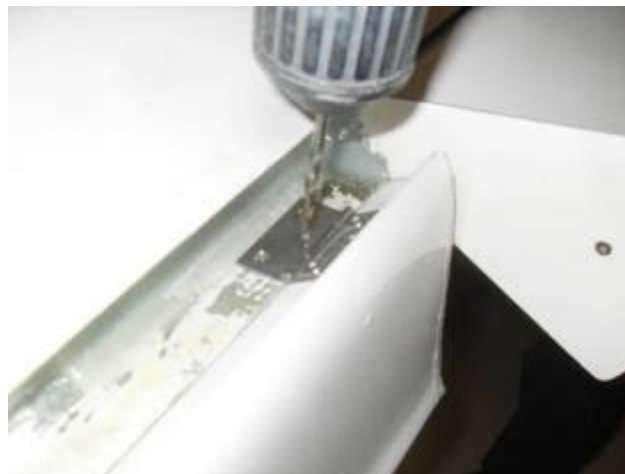

Fig. 3-35
6. Align the trailing edges of the Trim Tab and Trim Tab Tip again. Mark position of the central hole. Deflect the Trim Tab. Using the drill Ø5.1 mm drill the central holes by the holes of the Hinges. Both, Stabilator upper skin and hinge must be drilled (Fig. 3-35).